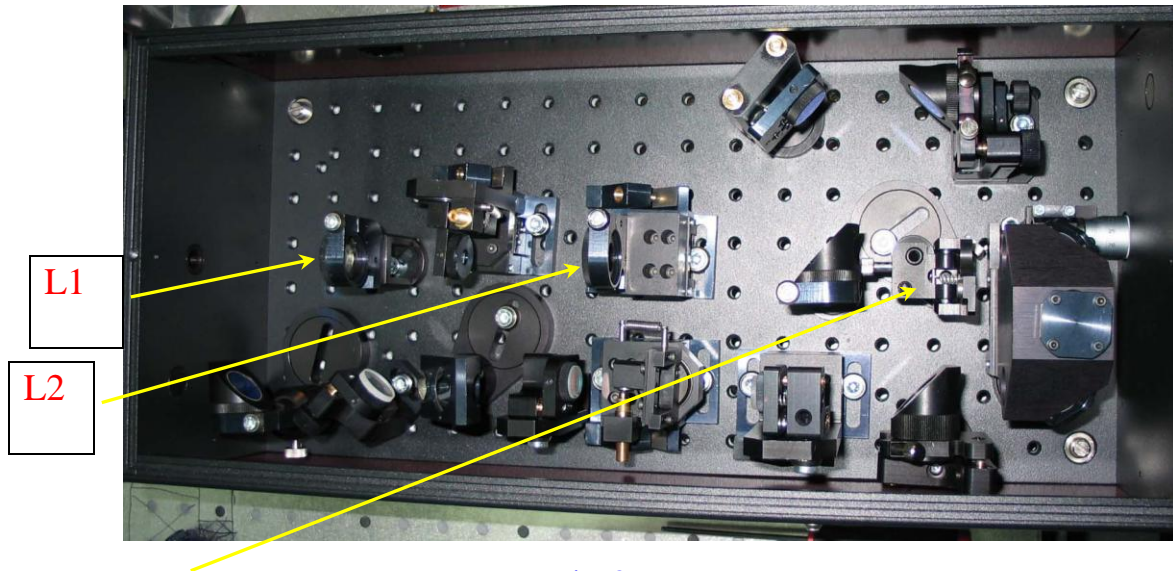

Fig.3.
- 3) Remove lenses L1, L2 loosening the M4 screws before (see. Fig.3).